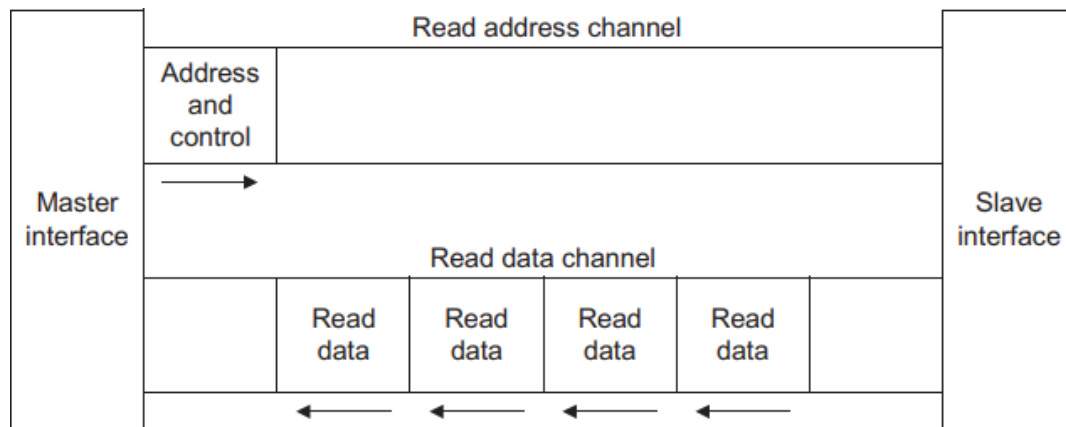
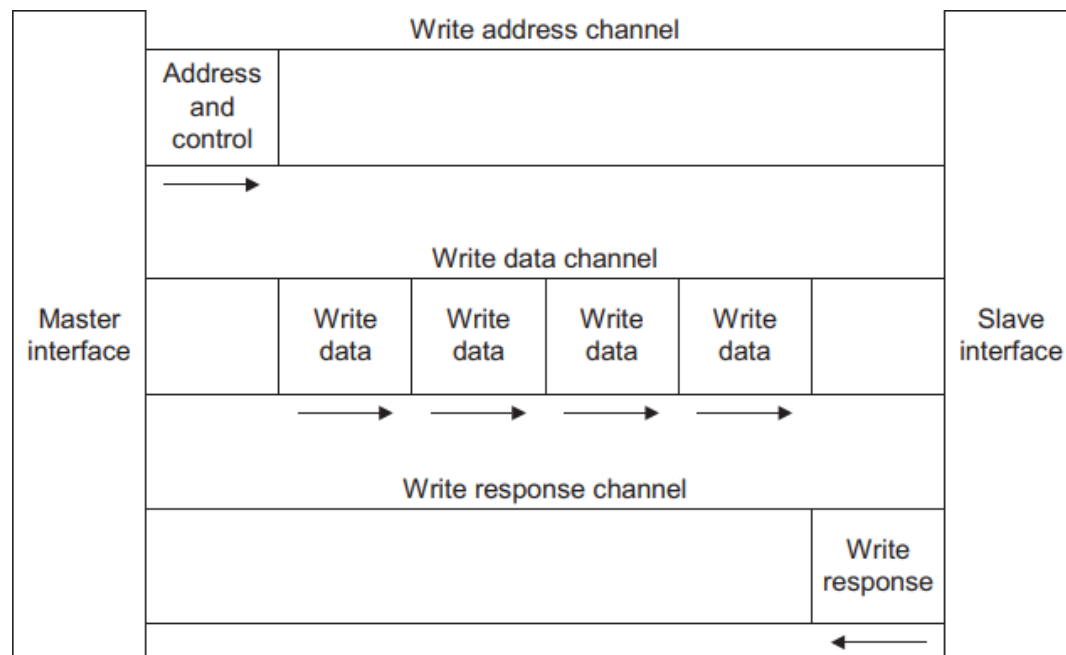

Fig. 1-1: AXI Read Channel Architecture
Fig. 1-2: AXI Write Channel Architecture
- The conceptual architecture of AXI architecture is shown in Fig. 1-1 and Fig.1-2. **The TOP module of AXI code will be provided on the course website.** Please download and complete them by yourself.